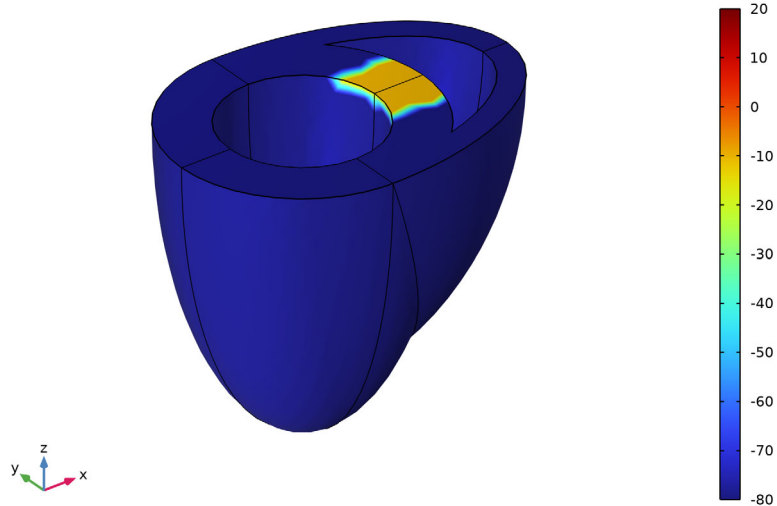

Figure 6: Initial impulse at the atrioventricular node.
- An initial pulse of electric potential ( $-10$  mV) is applied on a rectangular area on the basal surface between the ventricles (Figure 6).